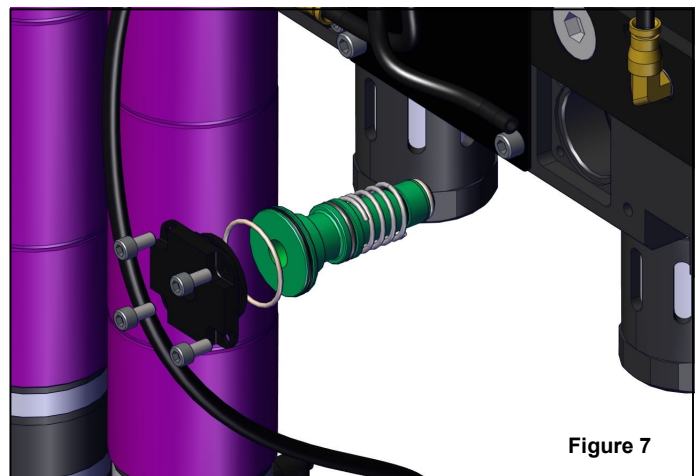

Figure 7
4. Using a 4mm hex key wrench, remove the four socket head cap screws holding the piston cover in place. Figure 7
6. Using a finger or a 1/2-13 bolt, remove the piston from the piston bore. Be sure to remove the piston spring. Figure 7
12. Using a 4mm hex key wrench, replace the four socket head cap screws holding the piston cover in place. Tighten until snug, then add 1/4 turn. Figure 7
13. Reconnect tubing to quick-connect fitting located on piston cover. Figure 7